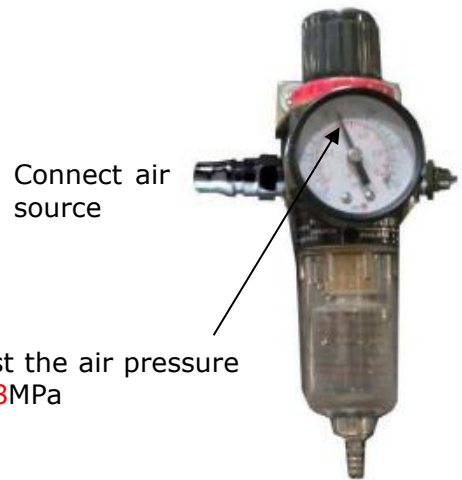

Fig. 26
4. Connect the air source (air pressure 5kg/cm²-8kg/cm²), Adjust the air pressure to 0.8MPa (See Fig. 26).